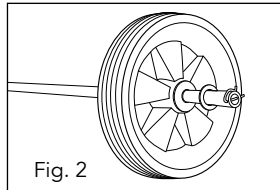

Fig. 2
2. Fit a washer (30) and a wheel (13) to the axle (33) (Fig. 2).